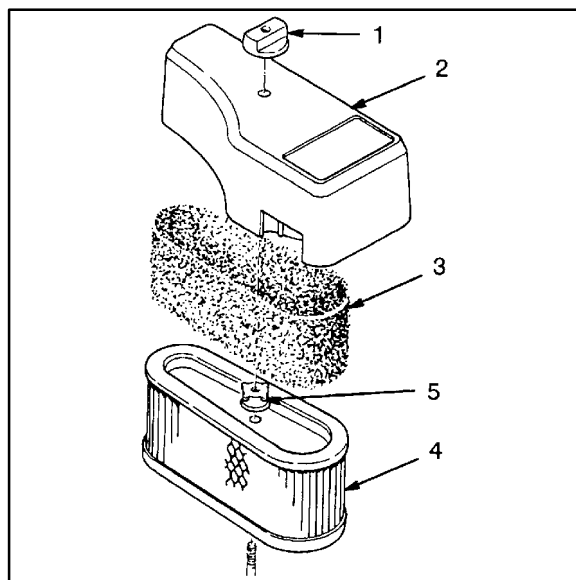

Figure 12
2. Remove the knob and air cleaner cover (Fig. 12).
3. Every 25 hours the foam pre-cleaner should be cleaned (Fig. 12). Remove foam pre-cleaner by sliding it off the paper cartridge (Fig. 12).
4. The paper air cleaner cartridge should be replaced every 100 hours. Remove the nut from the top of the paper cartridge (Fig. 12).